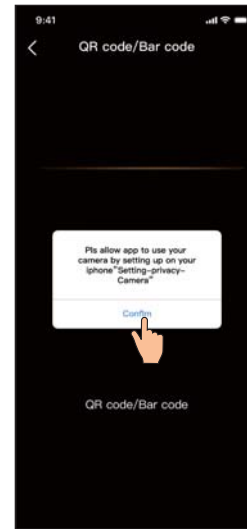
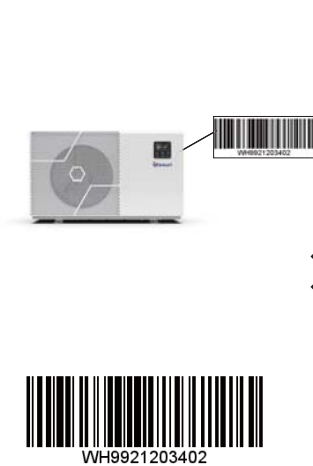

Fig.15 Scanning interface
Fig.16 WH barcode
5. Click "OK" (Fig.15) to allow the App to use the camera for scanning the WH barcode on the heat pump unit (Fig.16);